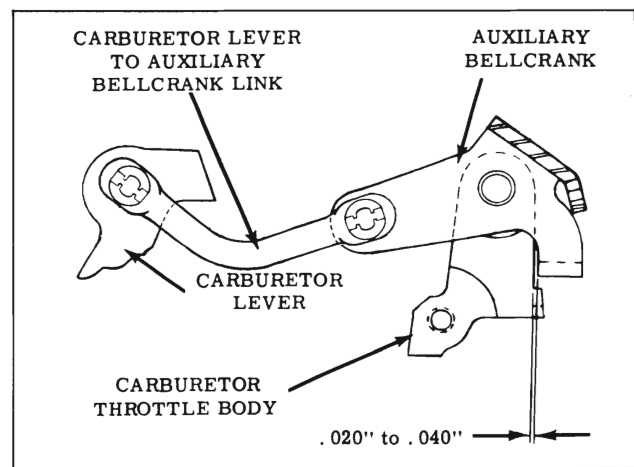
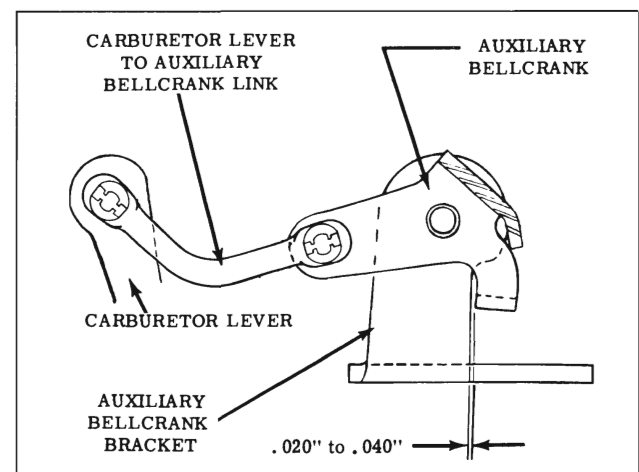

Fig. 3-128 Checking Carburetor Link (4 Bbl.)
Fig. 3-129 Checking Carburetor Link (2 Bbl.)
- Measure clearance as shown in Fig. 3-128 (four barrel) or Fig. 3-129 (two barrel) with feeler gauge. To obtain proper clearance of .020" to .040" remove link "C" and bend. Reinstall link and recheck clearance. Link can be installed up or down.